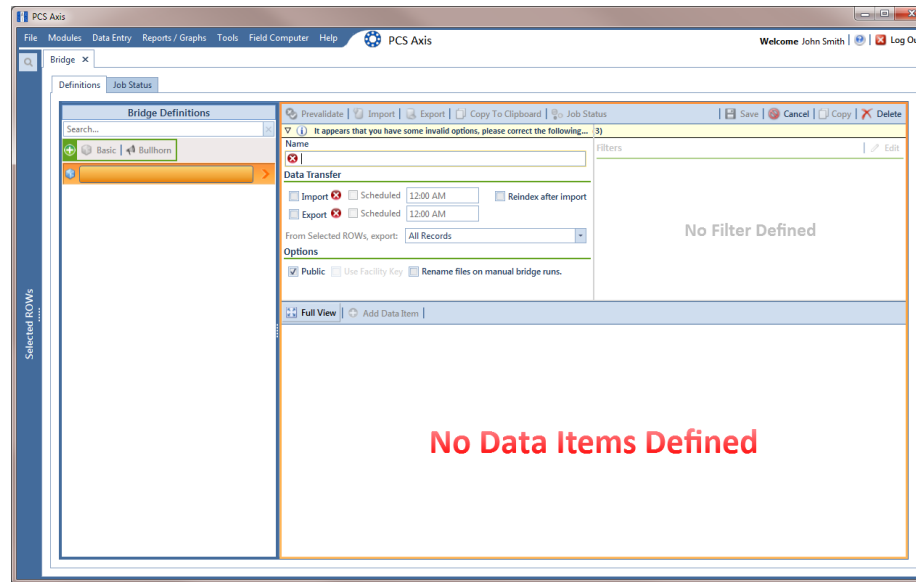

Figure 10-63. Basic Definition Panel
- 2 Click **Tools** > **Bridge** to open the *Bridge* window. Then click  **Basic** to open the basic definition panel (Figure 10-63).
- 3 Type a unique name for the Bridge definition in the **Name** field (Figure 10-63, page 550).